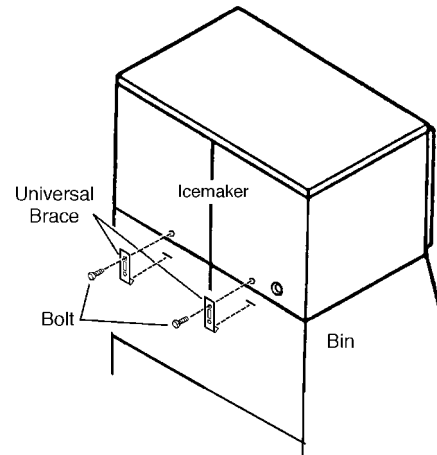

Fig. 2
- 4) From the accessory pack, locate the two Universal Braces and bolts to secure the icemaker to the Bin. (See Fig. 2).